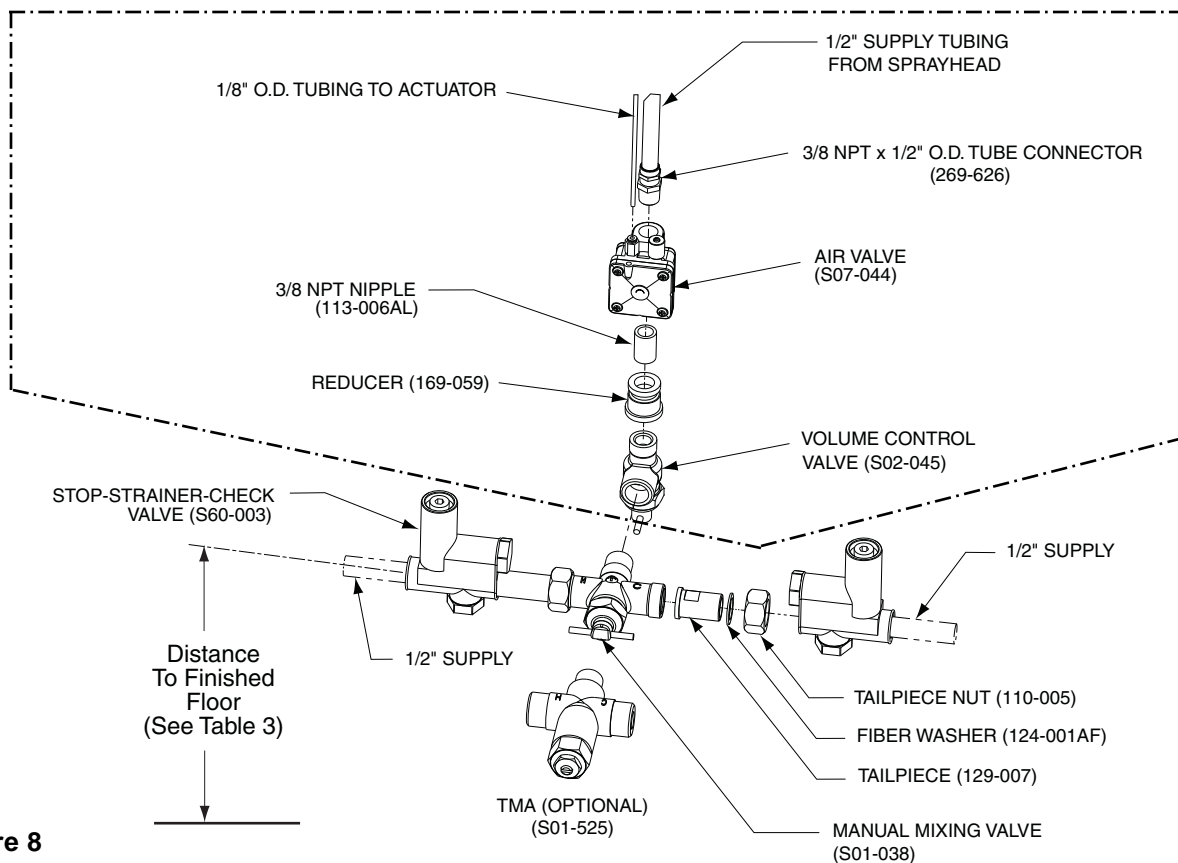

Figure 8
3. Using suitable fittings, install the complete valve assembly to the supplies as shown in Figure 8 at the approximate height indicated in Table 3.
5. Connect the 1/8" tubing from the actuator to the air valve (Figure 8).